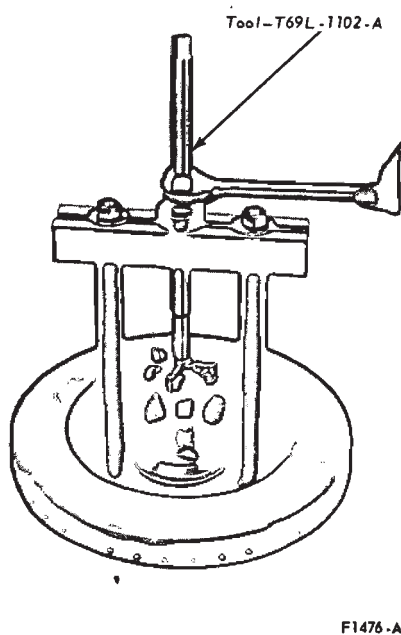

FIG. 4—Removing Front Wheel Bearing Cups—Disc (Drum-Type Similar)
and outer bearing cups with solvent and inspect the cups for scratches, pits, excessive wear, and other damage. If the cups are worn or damaged, remove them with Tool T69L-1102-A (Fig. 4).
8. Clean the lubricant off the inner and outer bearing cups with solvent and inspect the cups for scratches, pits, excessive wear, and other damage. If the cups are worn or damaged, remove them with Tool T69L-1102-A (Fig. 4).